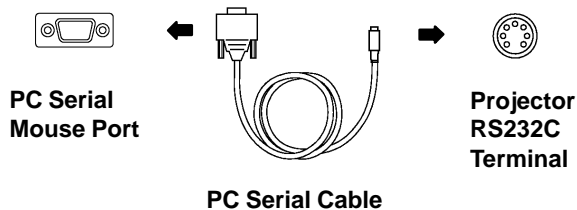

Figure 3-8. PC Serial Mouse Cable
**PC Computer:** Install the serial cable (Figure 3-8) to connect the serial mouse port on your computer to the RS-232C terminal on the MP8650 projector. *A serial mouse driver must be loaded on your PC computer for this function to operate properly.* It is best to reference the operating instructions for your computer before connecting an external mouse device of any kind.